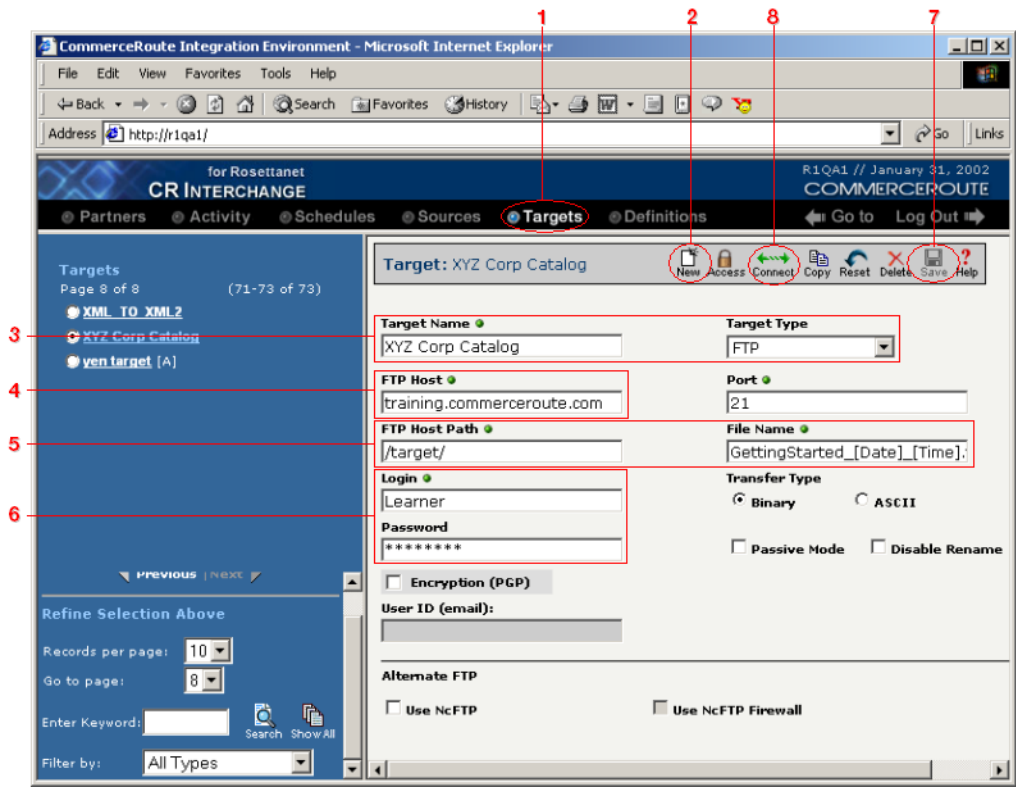

Figure 3-4. The completed XYZ Corp. Catalog target definition.
- ❼ You've finished this target, so click the **Save** button in the toolbar. Note that you now have a new "XYZ Corp. Catalog" target definition selected in the target list at the left side of the screen. Your target should resemble the screen in Figure 3-4 below.